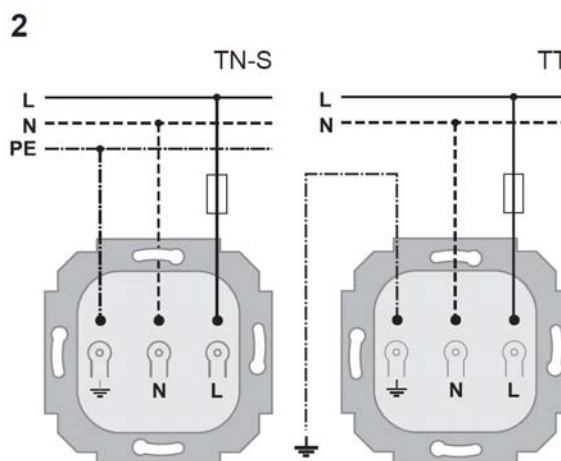

Figure 2
- Connect the residual-current circuit-breaker (see Figure 2).